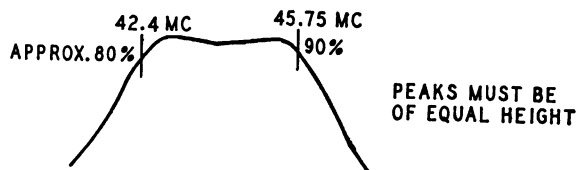

Fig. 4—2nd Pix I-F Response
1. Connect sweep output to 2nd I-F grid (pin #1-V4), oscilloscope to diode load resistor R-209 (Test Point "A"). Set output of sweeper so that some output is indicated on oscilloscope. Adjust 2nd PIF transformer (T-201) primary (bottom) and secondary (top) simultaneously for maximum output and symmetry. Readjust sweeper output for 4.0V P-P on oscilloscope. Touch-up to give the waveform shown in figure 4.